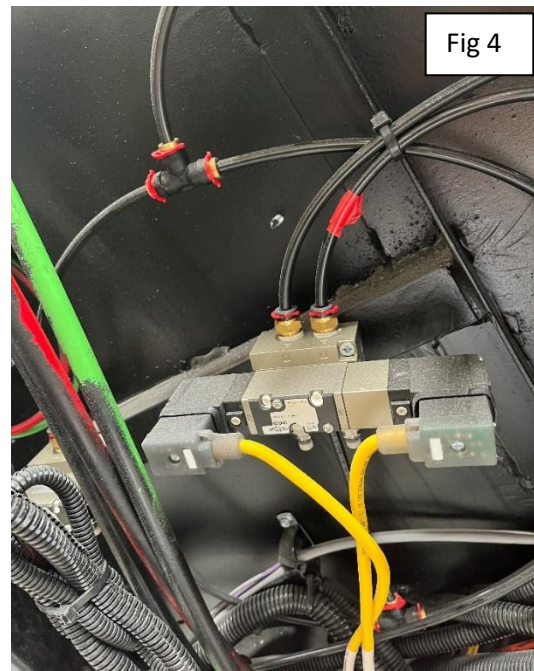

Fig 4
6. Locate the extend/retract air switch on the firewall above and to the driver side of the generator. (Figure 4)